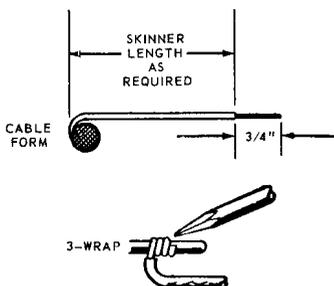

FIGURE 19. Skinned Wire Required for a Soldered Connection
- 7.02 *Soldered Wrapped Connections:* A *minimum* of three complete turns around the terminal shall be made for soldered wrapped connections. A skinned length of 3/4 inch should be sufficient to permit the required number of turns around the terminal. See Figure 19. More than the required number of turns is permissible.